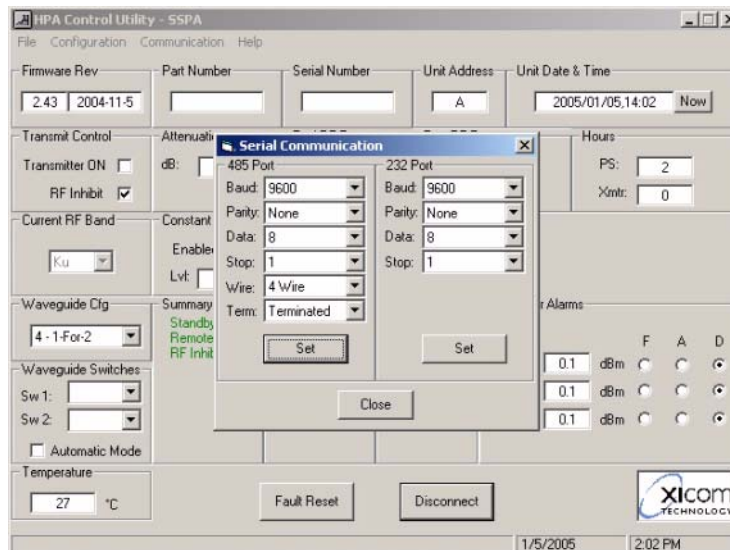

Figure 7, Serial Port communications parameters and RS485 operating mode
5. Selecting the “Serial Com” option presents a screen shown in Figure 7, which allows you to change the Baud Rate, Parity, number of data bits, and for RS485, 2 wire/4 wire mode and cable termination. The microprocessor used in the amplifier is only capable of operation with 1 stop bit.